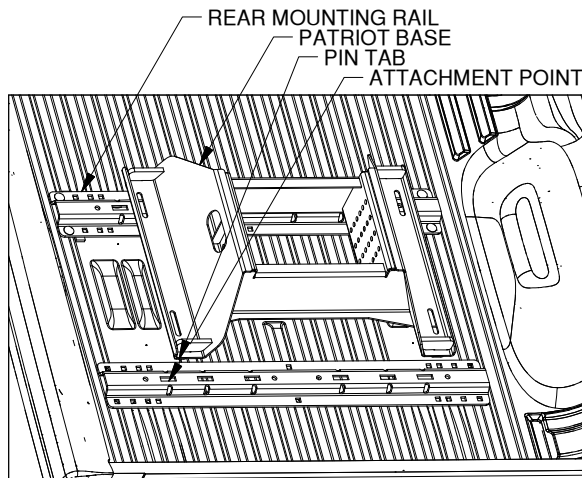

Figure C3: View into truckbed looking at tailgate.
1. **Position the forward mounting rail.** For this step the base which will be used in the mounting rails is required. Place a mounting rail into the truck bed in front of the rear mounting rail. Place the base over the rail attachment points and carefully lower it until the pin tabs pass through the attachment points on the rear mounting rail. Attach the forward mounting rail to the forward mounting points on the base. The base should rest flat against the top of the rails, See figure C3. With the base still attached ensure that the forward rail is centered in the truck bed.